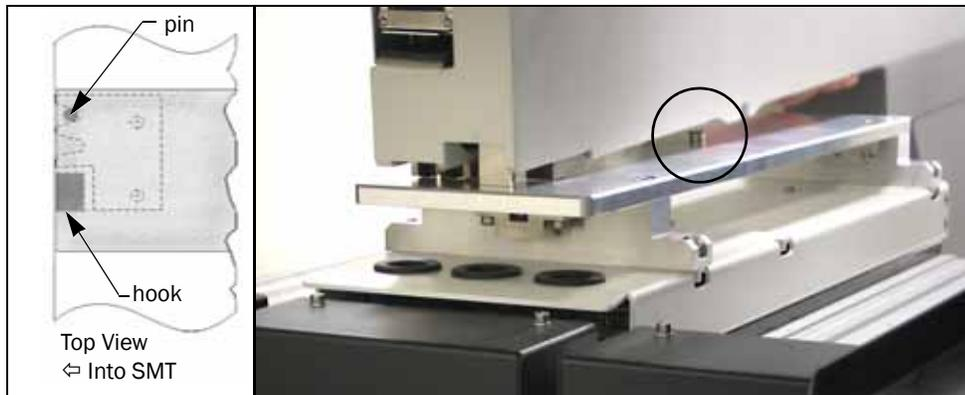

Figure 2-4—Installing RoadRunner3 onto the Feeder Bank Adapter. A dowel on the Adapter (circled) mates with the RoadRunner3 conveyor.
4. Lower RoadRunner3 letting the adapter dowels mate up with the bushings in the RoadRunner3. Refer to Figure 2-4.